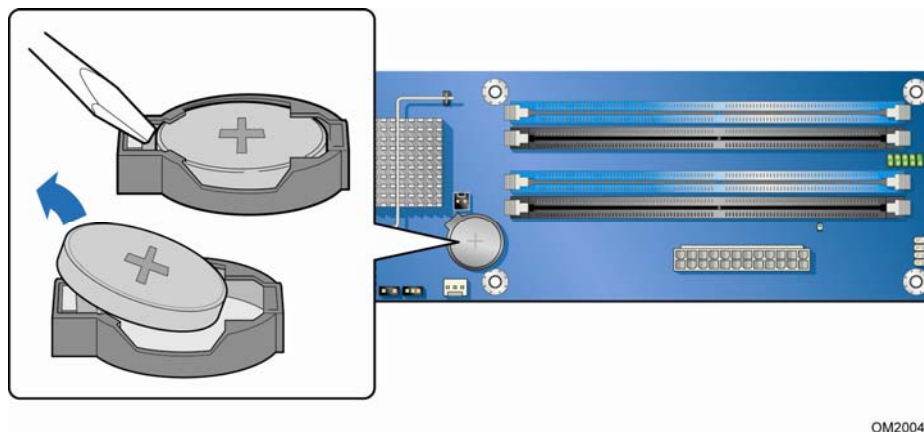

Figure 28. Removing the Battery
When the voltage drops below a certain level, the BIOS Setup program settings stored in CMOS RAM (for example, the date and time) might not be accurate. Replace the battery with an equivalent one. Figure 28 on page 60 shows the location of the battery.
4. Locate the battery on the board (see Figure 28).